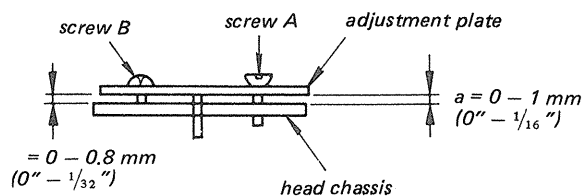

Fig. 1
4. Clearance between head chassis and adjustment plate should be 0 – 0.8 mm (0" – $\frac{1}{32}$ ") as shown in Fig. 1-b.
7. Clearance between head chassis and adjustment plate should be 0 – 1 mm (0" – $\frac{1}{16}$ ") as shown in Fig. 1-a.